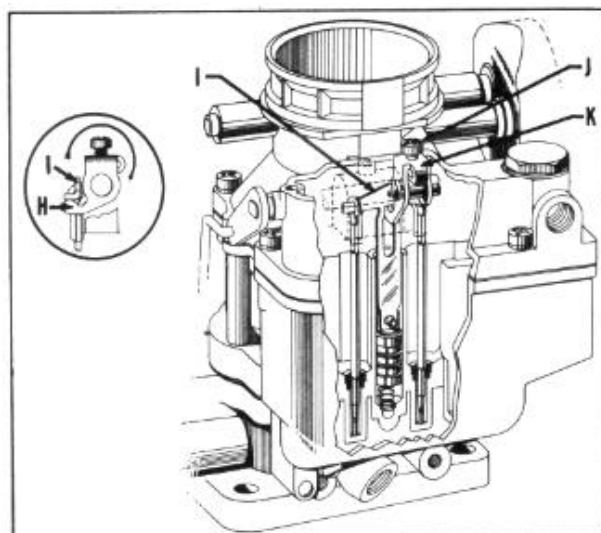

FIGURE 50
1. With the throttle lever set screw backed out as in "Pump Adjustment", press down on vacuumer link (1) Figure 50, until metering rods bottom.